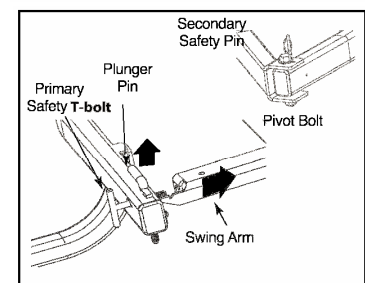

FIG 2.
- Fit the swing arm yoke over the point of rotation on the hitch bar. **See Fig 2.** Insert two 3/4" flat washers between the yoke and the hitch bar. **See Fig 3.** **This is important, as the washers are the bearing surfaces that the swing arm pivots on for smooth operation.** Next, push the 3/4" pivot bolt through the aligned yoke and hitch bar hole. Before threading on the 3/4" nylon lock nut, put the third 3/4" flat washer on the pivot bolt (the washer should be between the yoke and the nut). **This is important to ensure adequate threads on the pivot bolt for proper tightening.** Tighten the nylon lock nut onto the pivot bolt until the swing arm swings freely, yet with some resistance. **The nut must be tightened snugly to the bottom of the yoke.**
To swing the rack away from the vehicle, first remove the secondary safety pin near the pivot bolt (See Fig 2). Next, unscrew the primary safety T-bolt until the threads are free of the swing arm. Finally, pull up on the plunger pin handle while manually swinging the bike rack away from the vehicle.